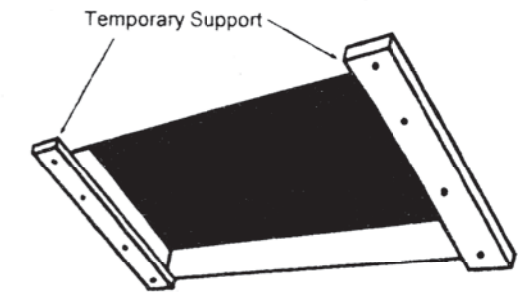

Fig. 4
- Step 1** Build two ledges to hold the stairway in the rough opening using 1" x 4" temporary slats which extend across the ends of the rough opening. Each slat should extend approximately 1/2" to 5/8" into the rough opening. If the length of the rough opening is not exact, be sure that there is enough ledge to overlap each end of the stair by 1/4" to 3/8". The slats should be nailed securely enough to hold the weight of the stairway (Fig. 4).